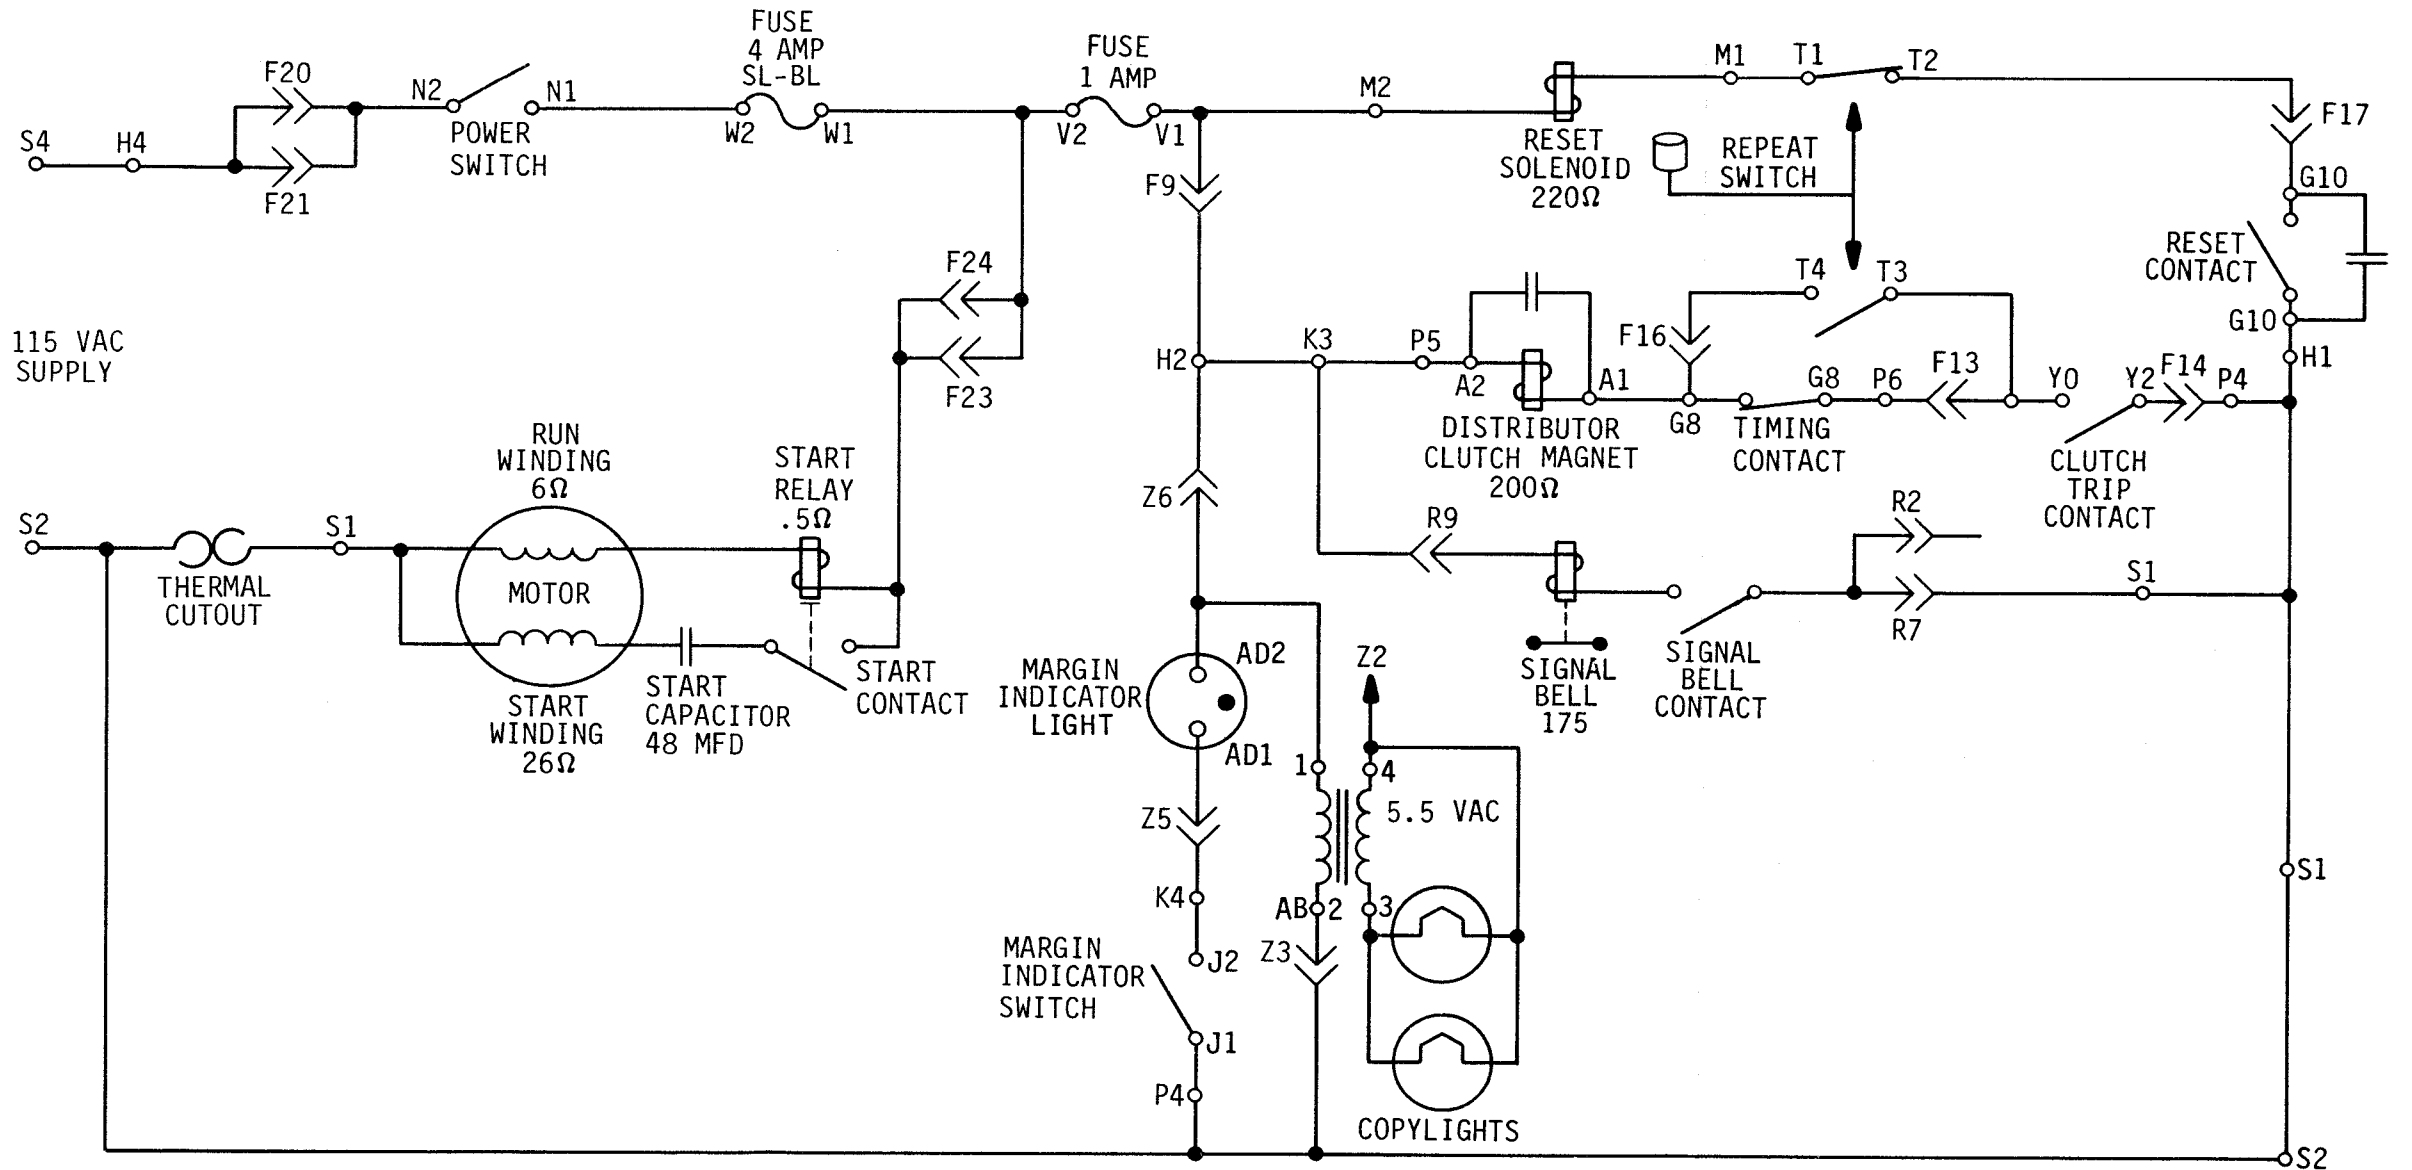

Figure 5-1. AC Power and Control Circuits
d. Maintenance Schematic and Wiring Diagrams. Schematic and wiring diagrams are provided at the end of this chapter as aids to troubleshooting and maintenance of the teletypewriter sets. Figures 5-1 and 5-2 are schematic diagrams for high-level ac and dc circuits. Wiring diagrams for the high-level basic component assemblies are shown in figures 5-3 through 5-7. An index of the schematic and wiring diagrams for high-level equipment is provided in table 5-3.